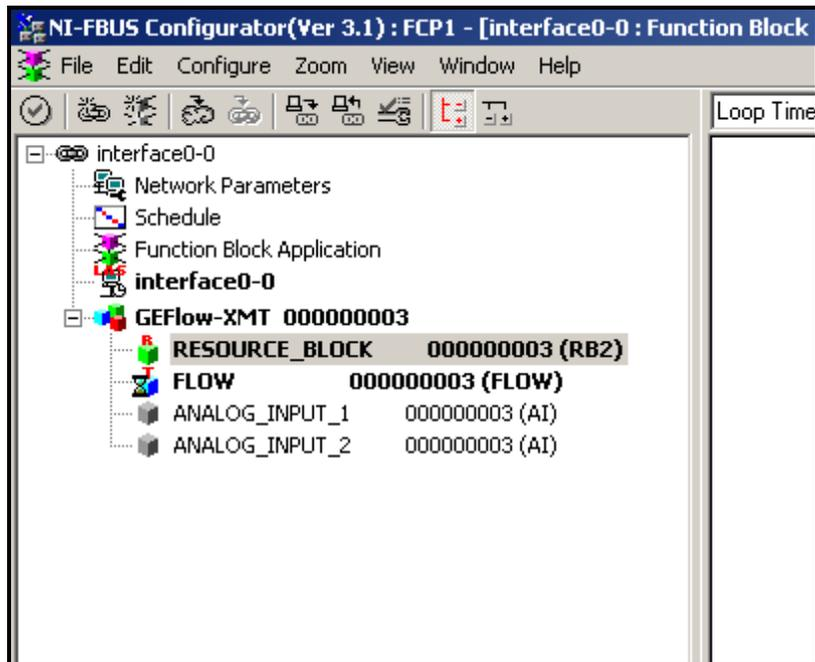

Figure 40: Configuration Utility Setup Example
Figure 40 shows the Configuration Utility with a flowmeter on the network (GE Flow-XMT).
1. Double click on the AI block for which you wish to set the units (ANALOG\_INPUT\_1 or ANALOG\_INPUT\_2 in the tree under GEFLOW-XMT; see Figure 40 on page 124).
1. Double click on the FLOW transducer block (in the tree under GEFlow-XMT; see Figure 40 on page 124).